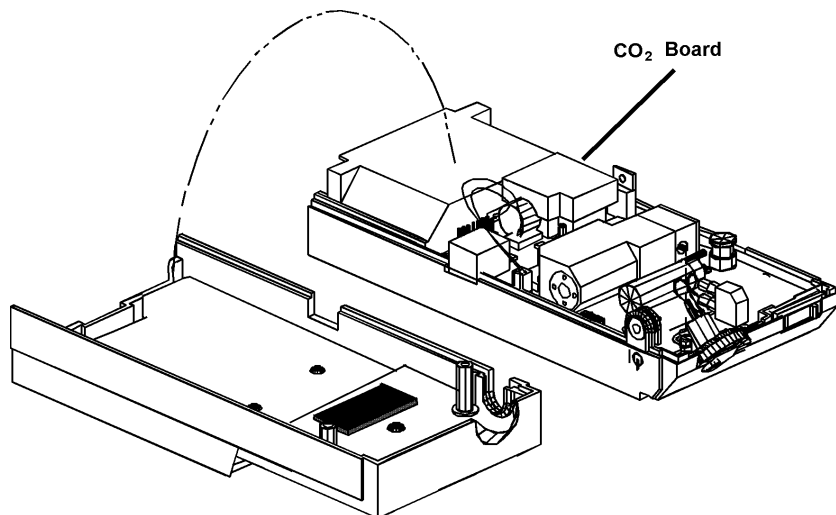

Figure 7-3: Separating Rear and Front Covers
4. Carefully lift the rear case cover up as shown in Figure 7-3.